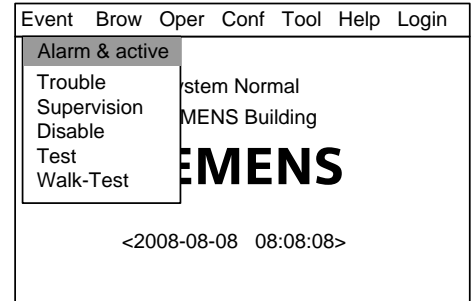

Fig.37-1
1. Press "Menu" to browse the main menu (Fig. 37-1)